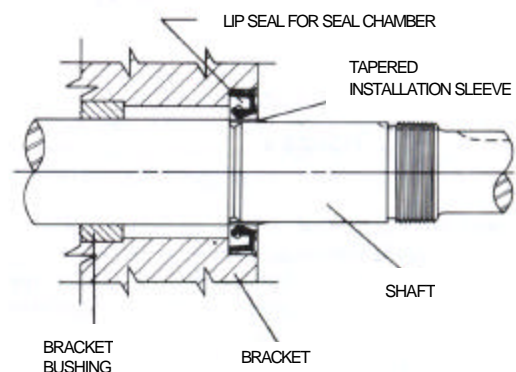

FIGURE 8
2. Install lip seal in bracket. Refer to Figure 8.